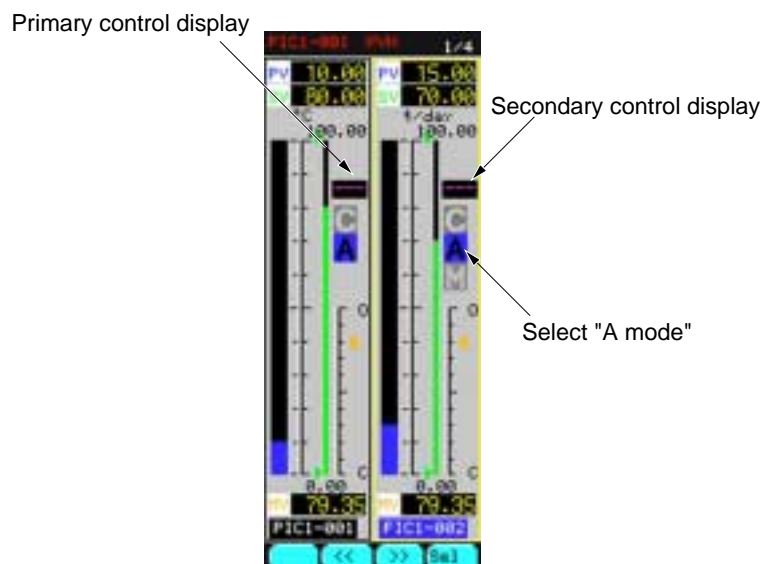

Fig. 4-48
- ① Hold down the **A** key several seconds. “A” will light (Fig. 4-48).
- ② Using the “SV-UP” and “SV-DOWN” keys, operate the secondary SV.